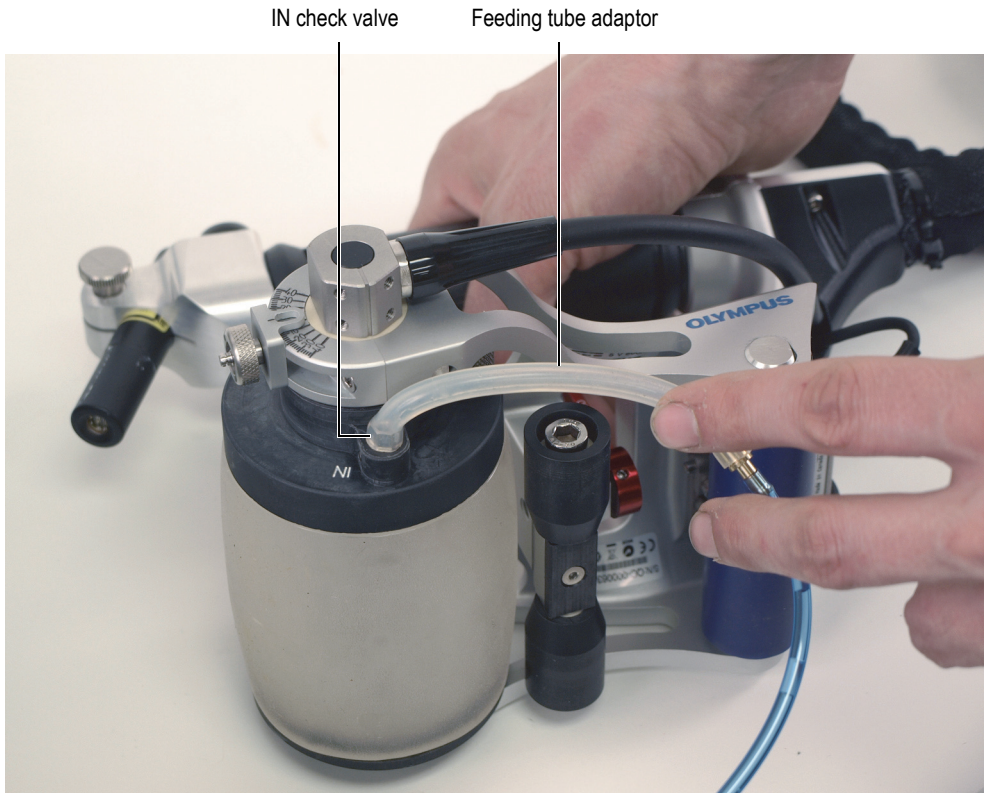

Figure 3-2 Connecting the feeding tube adaptor to the IN check valve
2. Connect the feeding tube adaptor to the IN check valve, which is also located on the acoustic wheel flange on the probe-cable side (Figure 3-2 on page 47).